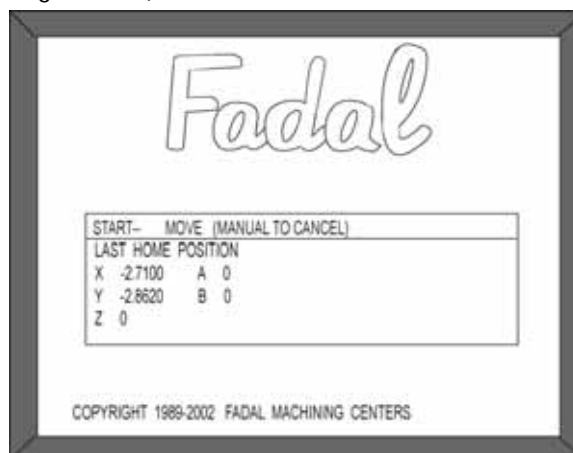

Figure 1-11: Last home position.
5. This procedure is complete when the move to LAST HOME POSITION screen is displayed (See Figure 1-11).